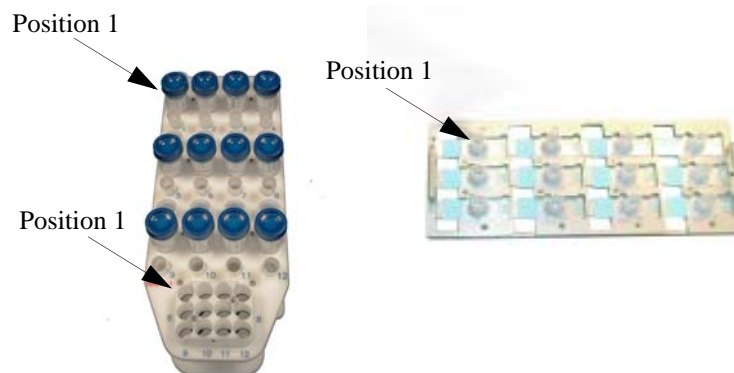

Figure 7 BD PrepMate specimen rack to slide tray row & column correspondence
4. Confirm that each tube is labeled the same as its corresponding specimen vial (i.e., the vial loaded in the same row and column). The correspondence between rows and columns in the specimen rack and the BD PrepStain slide tray is illustrated in *Figure 7*. The illustration identifies the location of Position 1 (row 1, column 1) in three places: the syringe, vial, and tube rows on the BD PrepMate specimen rack; the centrifuge rack rows; and the rows on the slide tray.